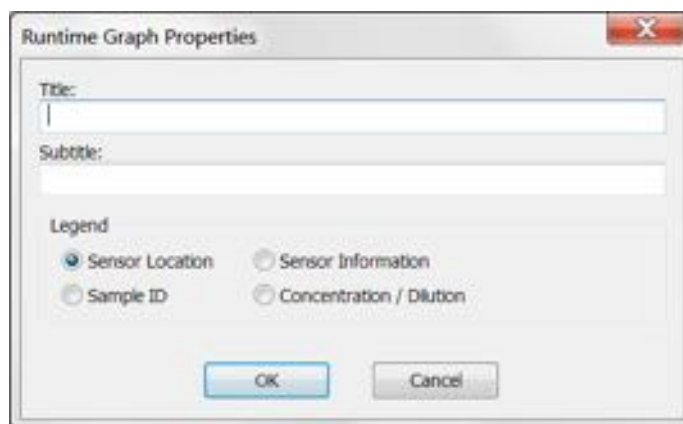

Figure 9-67: Selecting a Runtime Binding Chart Legend
2. In the **Runtime Graph Properties** dialog box (see Figure 9-67), select one of the following legends: